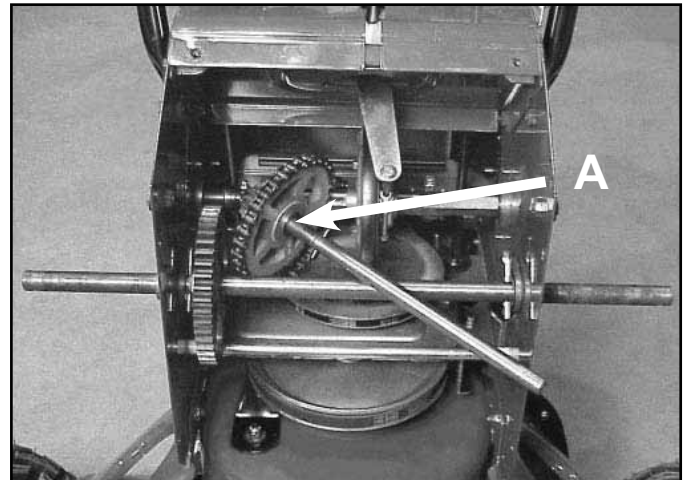

Fig 102
4. Pull the right hand end of the shaft out of the traction housing. Optional: The chain contains a master link, which also can be removed (Fig. 102).
Note: There is a thrust washer that may stick to the bushing on the sprocket (Fig. 102).